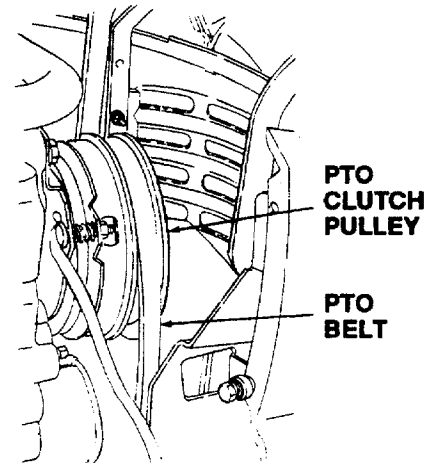

Figure 38
- Remove the forward end of the PTO belt from the engine PTO clutch pulley. (Refer to Figure 38.)